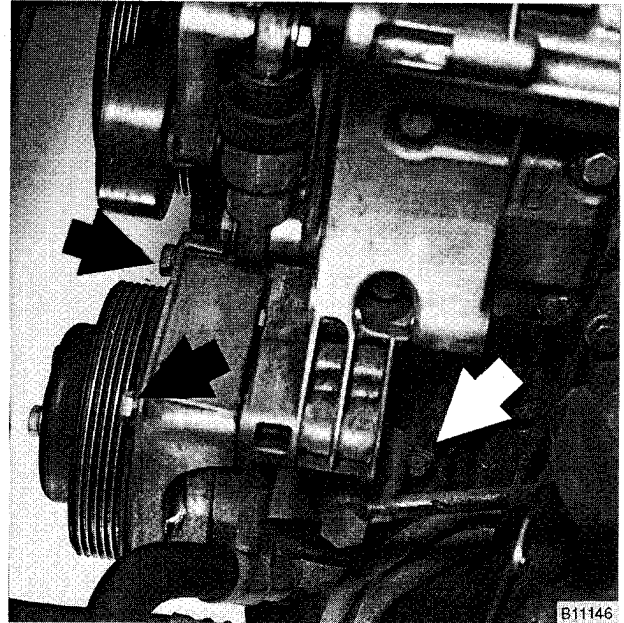

Fig. 7. Power steering pump mounting bolts (**arrows**).
11. Without disconnecting fluid lines, remove power steering bracket (with pump) from oil pan and engine block. See Fig. 7. Disconnect fluid lines from bracket on engine mount. Hang pump from chassis using wire.